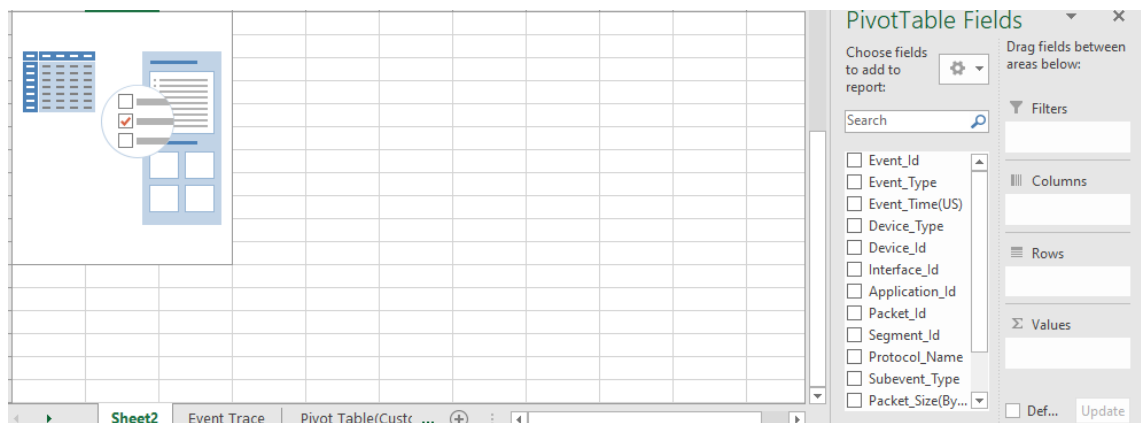

Figure 1-8: Blank Pivot Table
4. This will create a new sheet with Pivot Table as shown below Figure 1-8.